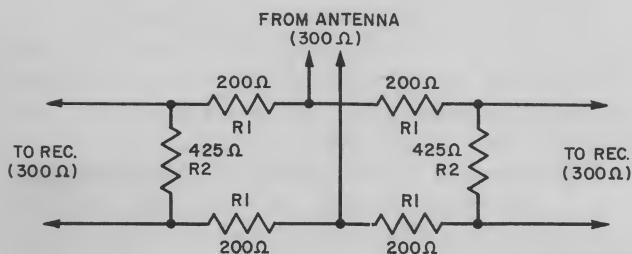

Fig. 11-11. Resistance network for operating two receivers from one antenna.
2. MULTISSET COUPLERS. One antenna system may be coupled to two or more receivers (Fig. 11-11). A simple matching network is used (except for amplifying systems). A matched impedance is maintained. Attenuation arising from the network is kept to a
minimum, except where it is required to reduce receiver interaction. Generally, increased insertion loss reduces interaction. In other words, the greater the value of  $R_1$ , (Fig. 11-11), the smaller is the signal reaching the receivers and the greater is the isolation between them.